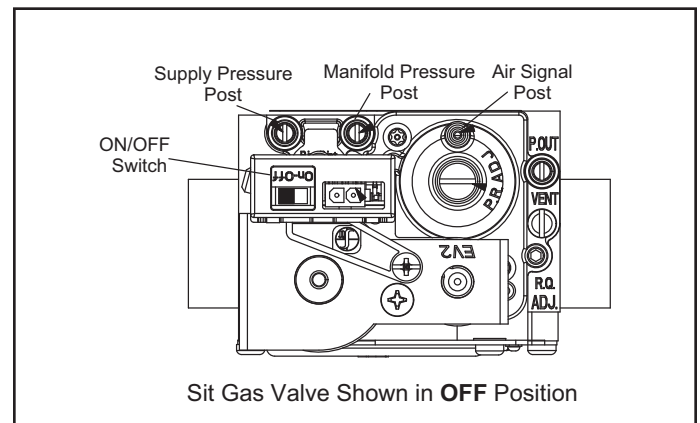

Figure 33. Sit Valve
See Figure 33
6. Move switch on gas valve to **OFF**. Do not force. See Figure 33.
8. Move switch on gas valve to ON. Do not force. See Figure 33.